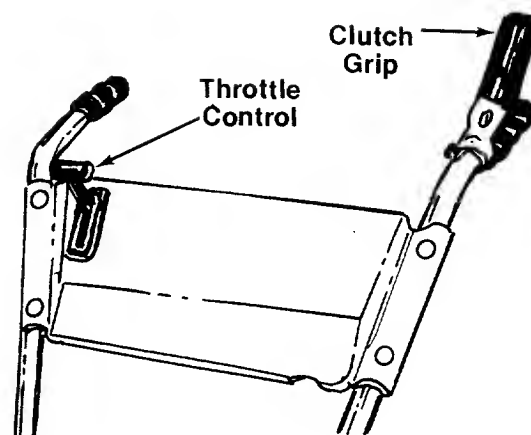

FIGURE 11.
2. Be certain the clutch grip is in the neutral (released) position. See figure 11.
4. Move the throttle control lever forward to FAST POSITION. See figure 11.